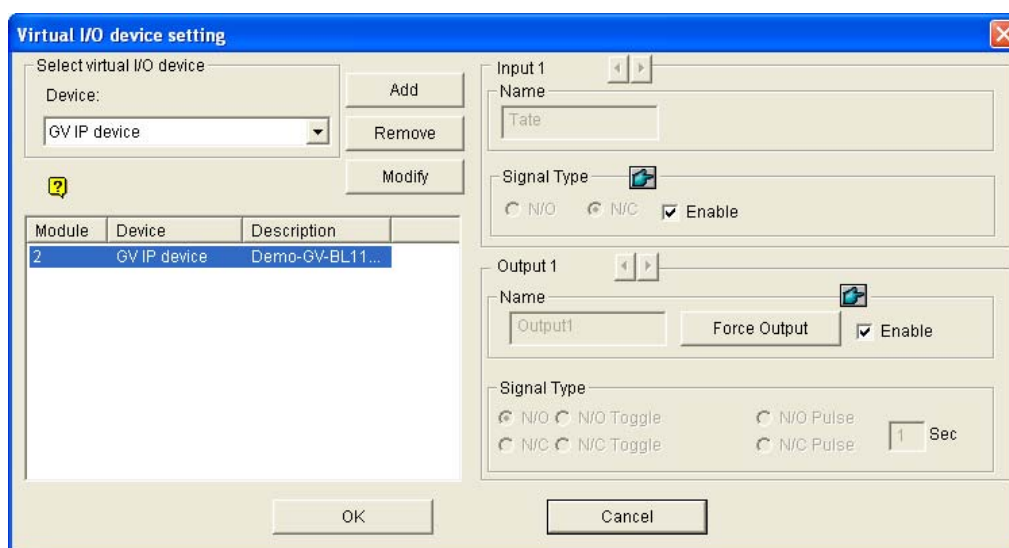

Figure 6-36
2. In the Virtual I/O Device Setting dialog box (Figure 6-36), select one device, e.g. **GV IP Device**, and click the **Add** button. This dialog box appears.